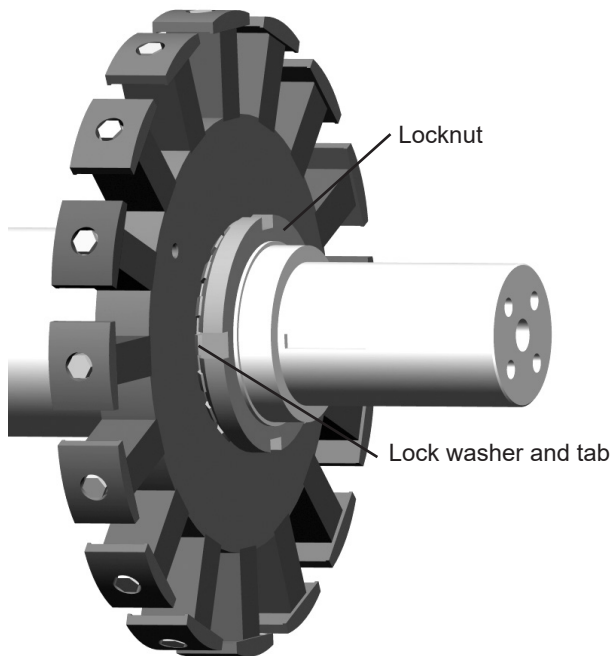

Figure 26 PMG Rotor with Locking Nut
4. To remove the PMG rotor, pull it off separately using hand force. Wrap the PMG rotor in plastic to avoid contamination with metal filings. Note: Some inboard PMG assemblies use a locknut to secure the PMG rotor. See Figure 26. To remove the PMG rotor with a lock nut: